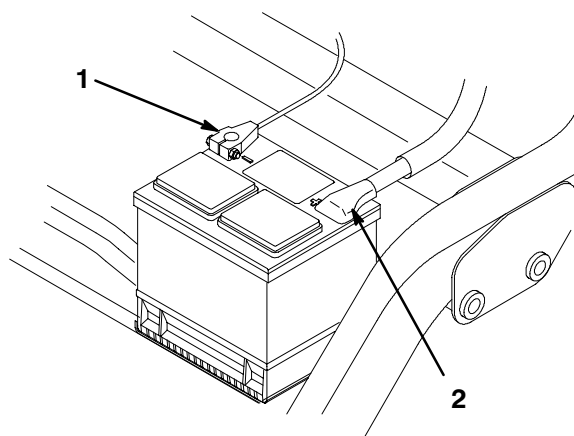

Figure 3
4. Install the positive cable (red) to the positive (+) terminal and the negative cable (black) to the negative (-) terminal of the battery and secure them with capscrews and nuts (Fig. 3). Slide the rubber boot over the positive terminal to prevent a possible short from occurring.